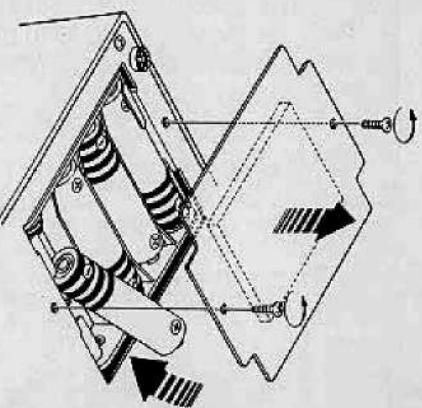

Fig. 2 Battery installation
(1) Obtain four (4) common "AA" cells.
(2) Remove the lid as shown in Fig. 2. Install the batteries observing correct polarity. Replace the lid.
(3) After the batteries are installed, place the POWER switch ON and verify that the LED lights.